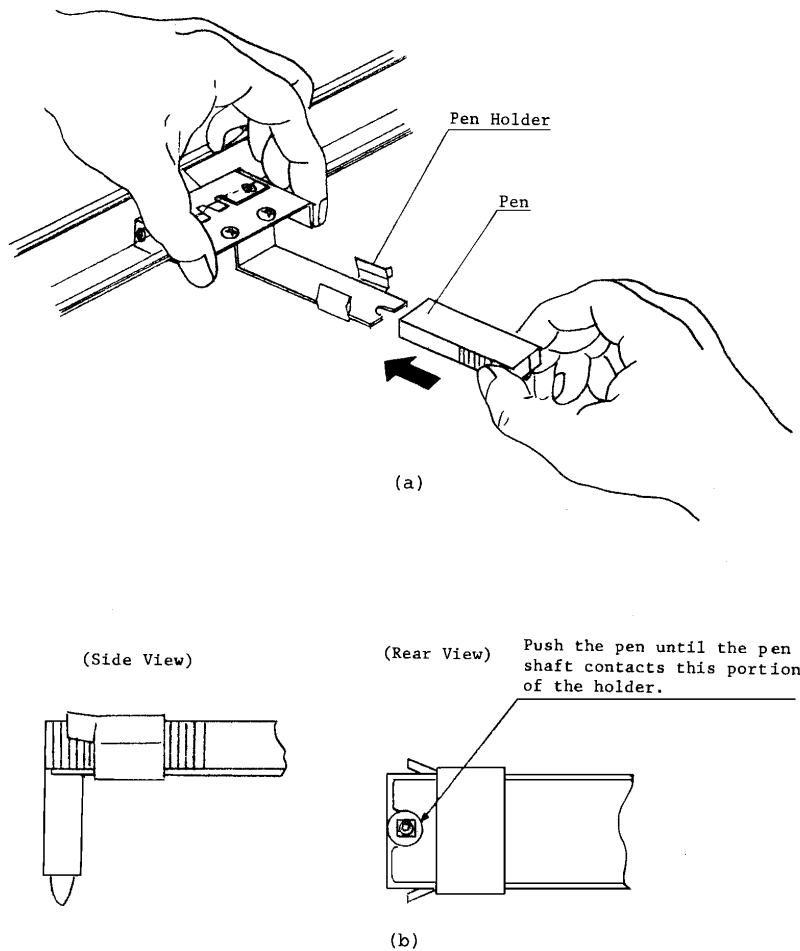

Fig. 4.9 Mounting the pen.
4.4 Mounting the Writing Pen (Refer to (a) and (b) parts in Fig. 4.9):
(refer to (a) part in Fig. 4.9).
Check that the pen is firmly mounted (refer to (b) part in Fig. 4.9).